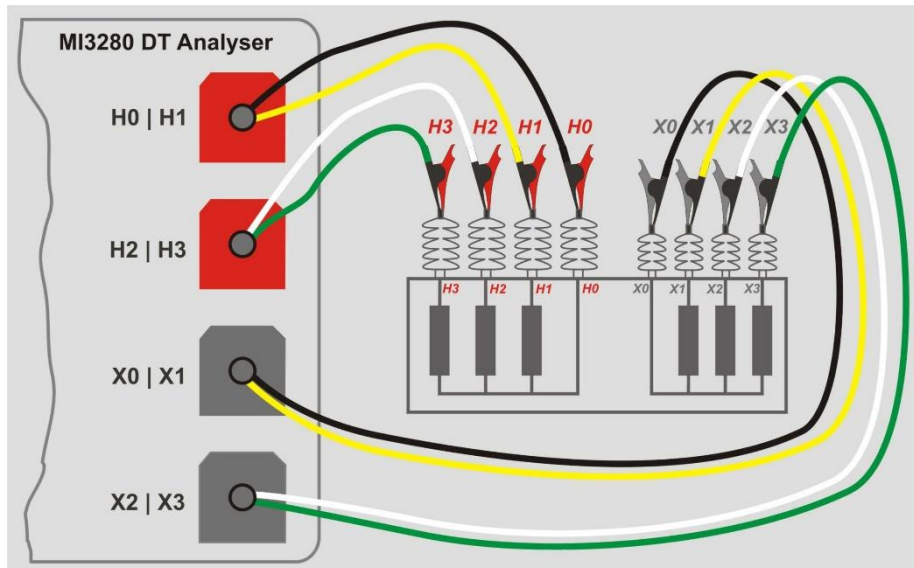

Figure 11.22: Winding resistance measurement of three-phase transformer
To measure three-phase voltage/power transformer you need to connect **H1|H0** connector (red terminal: black and yellow wires), **H2|H3** connector (red terminal: green and white wires), **X1|X0** connector (grey terminal: black and yellow wires) and **X2|X3** connector (grey terminal: green and white wires) to appropriate MI 3280 DT analyser socket like shown in Figure 11.22.
- Connect three-phase transformer like shown in Figure 11.22.